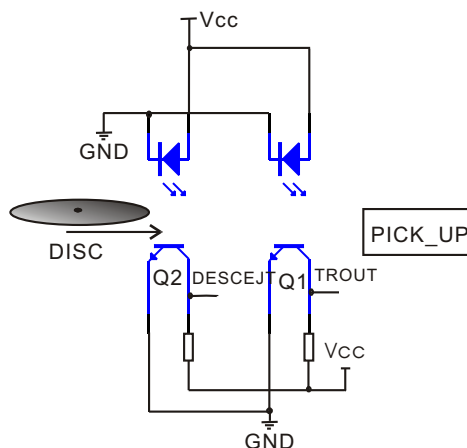

Figure 3.2.5.1 Disc slot-in circuit diagram
1. Disc slot-in circuit is shown in the figure 3.2.5.1: